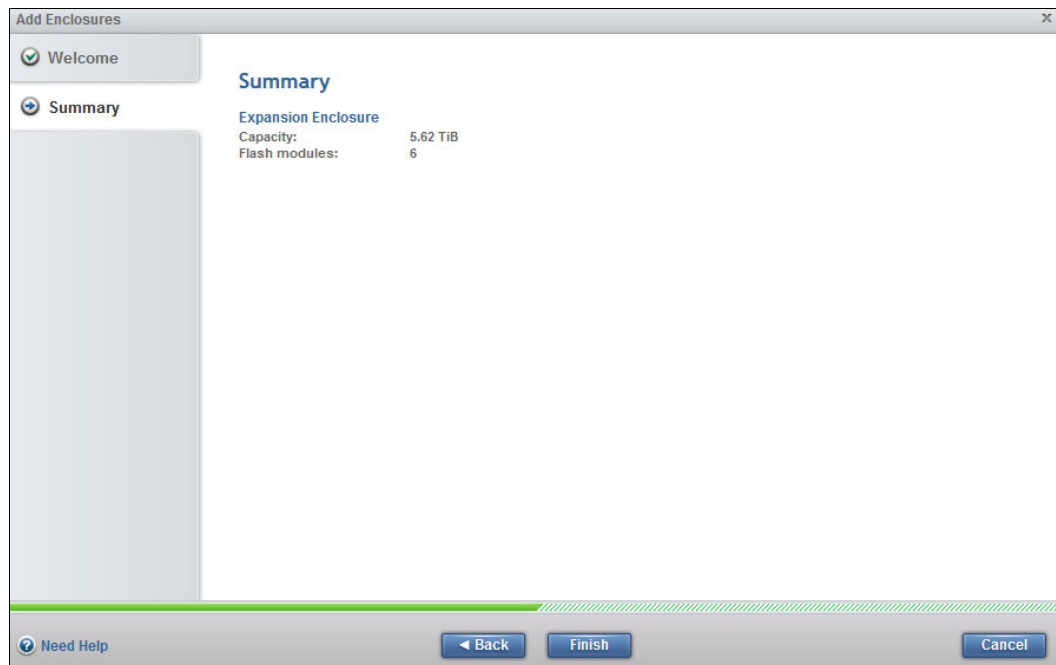

Figure 5-8 Add enclosure summary
5. Click **Close** at the Task Completed window. A summary is displayed showing capacity and flash modules to be added as shown in Figure 5-8.